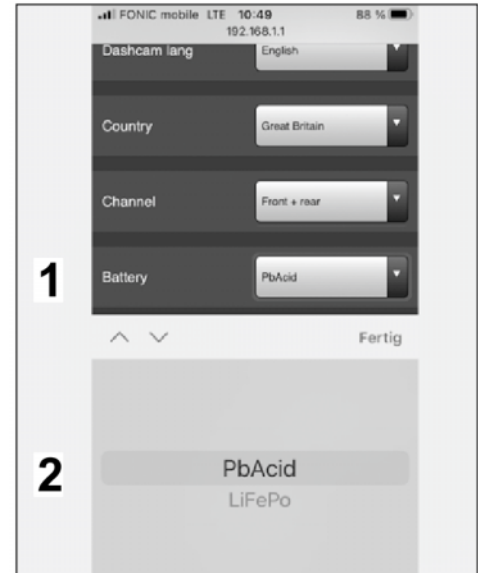

Figure 24
- 5.3.4 Select the battery type (⇒ *Figure 24*)